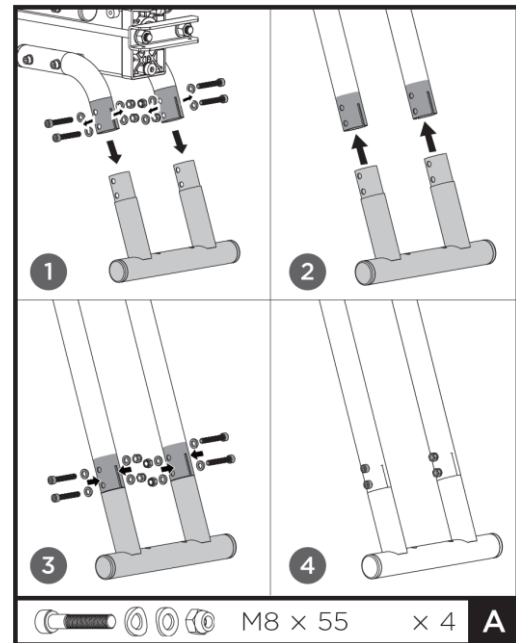

Fig. 4a
2. Insert the two ends of the front leg into the larger openings of the connecting tubes (k). Rotate the tubes slightly to align the mounting holes. Secure with bolts M8x55, washers, and nuts (A). Refer to Fig. 4a.